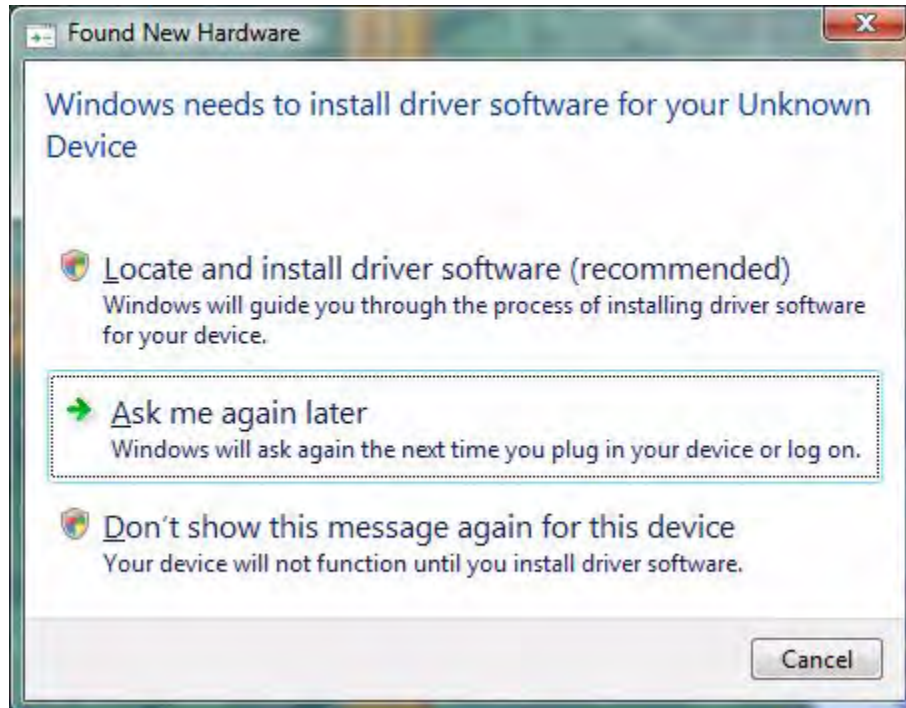

Figure 20. Found New Hardware Dialog, Windows Vista
2. After the PC detects the new hardware, it will display the Found New Hardware Wizard dialog box, shown in Figure 20. Click **Locate and install driver software (recommended)**.